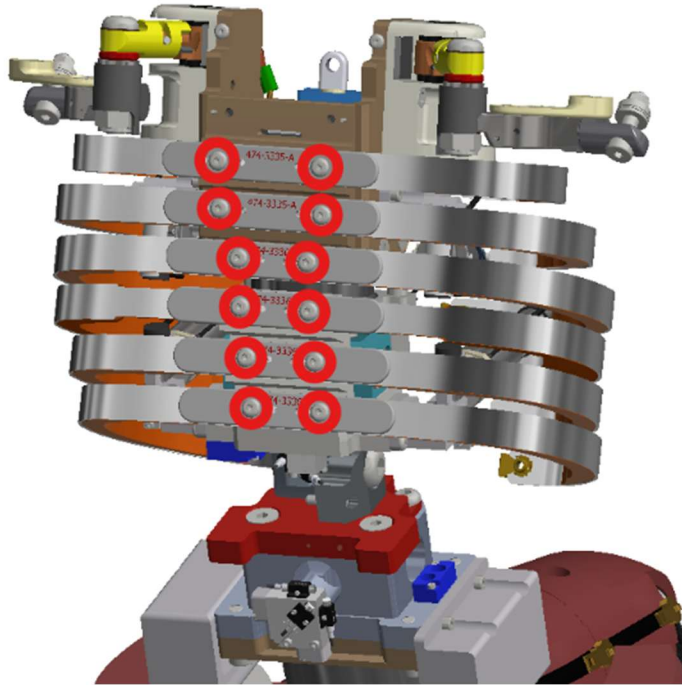

Figure 5-58. Attach Ribs 2-7, with their respective rib stiffeners
- 5.3.23 Attach individual ribs, numbered 2 through 7 to the spine assembly (474-3200-A) with their respective Rib Stiffeners (each part is stamped with its respective position number) and two M5 X 0.8 X 8 LG. BHCS per rib assembly for all ribs (Figure 5-58). Note there are 3 different Rib Stiffeners (Table 5-4).